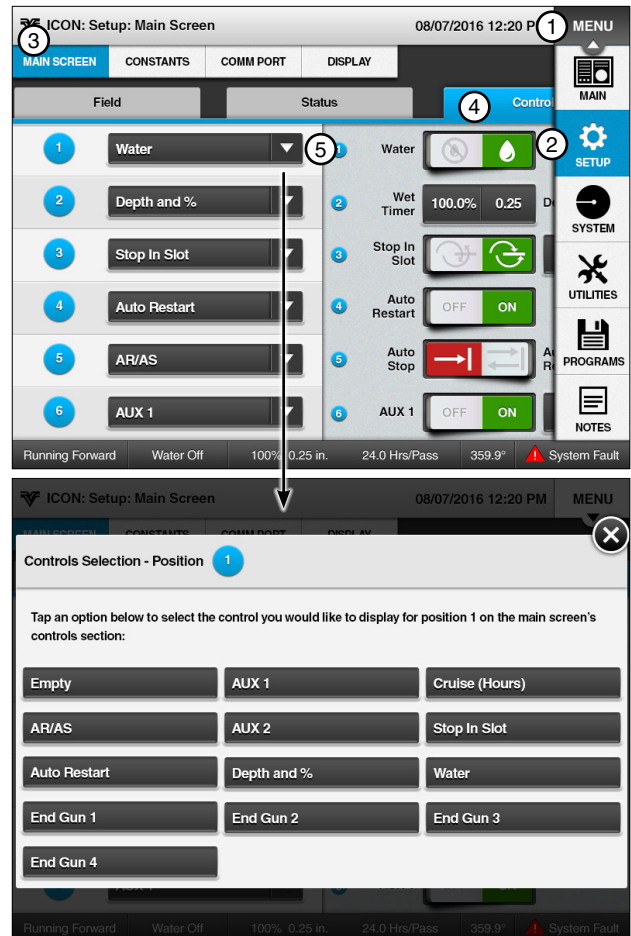

Figure 35-1 1. Menu 4. Controls
3. On the Controls screen select up to six buttons that you want to appear on the Main Screen. The Controls Drop-Down Menu number relates to the location of the control on the Main Screen. See Figure 35-1.